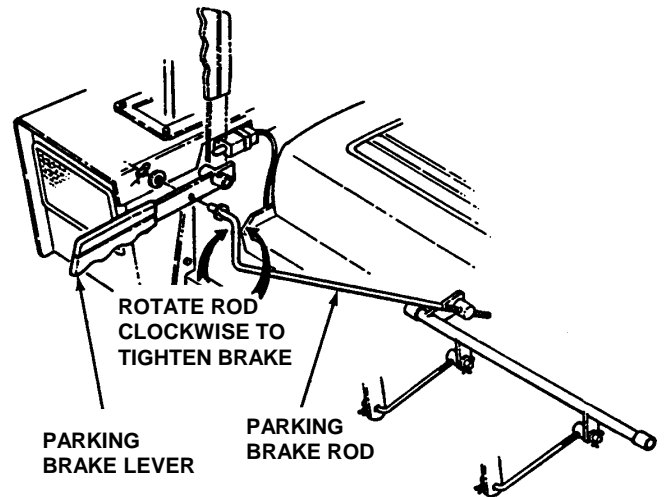

FIGURE 5.4
3. Disconnect parking brake rod from parking brake lever. See Figure 5.4.
5.3.1. The park brake can be adjusted by removing the park brake rod from the park brake lever and rotating clockwise to increase brake tension. See Figure 5.4. When properly adjusted the park brake lever should require 18 to 22 pounds force to set the brake. If this adjustment does not result in proper brake action, contact your authorized Snapper dealer for corrective action. See Figure 5.4.